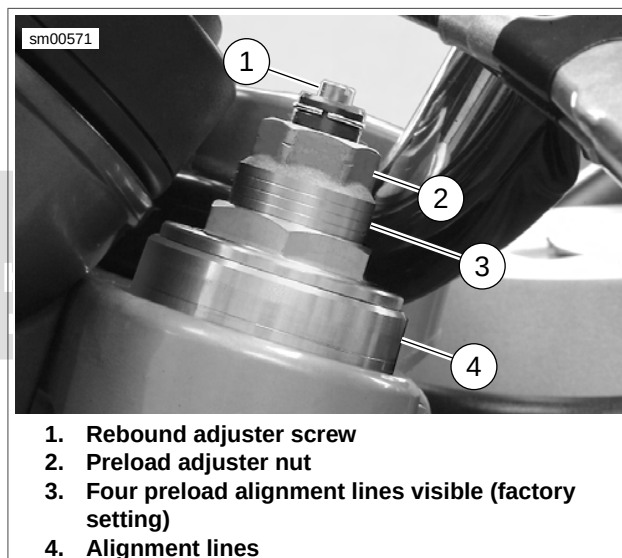

Figure 2-84. Front Fork Preload and Rebound Adjuster (Typical)
4. See Figure 2-84. Position fork with alignment lines (4) visible and reflector facing to the side and tighten the lower fork clamp.